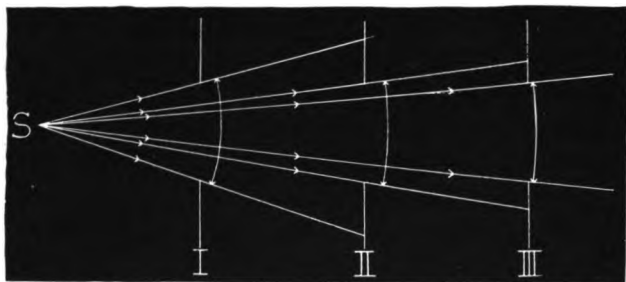

FIG. 62.—THE RAYS THROUGH III ARE MORE NEARLY PARALLEL THAN THROUGH I
diverge in all directions, the amount of divergence of those striking a given area depends upon how far from the source we are considering them. For example, in Figure 62 the rays passing through the successive openings of the cards *I*, *II*, *III* diverge least in *III*, the one farthest from the light source. If we go far enough from the source, those passing through the same sized opening will be more nearly parallel. Now the sun is so far away from us that we consider the rays from it as
19. Will a book held in opening *III* (Fig. 62) be as brightly illuminated as in opening *I*? Explain.